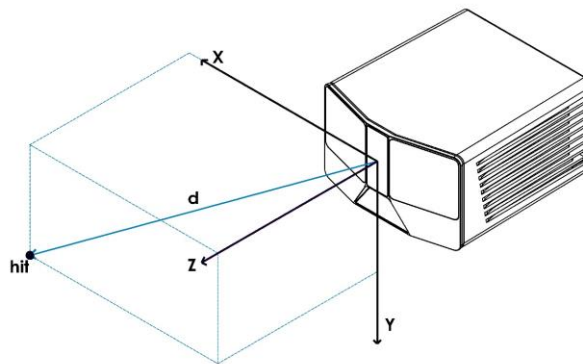

Figure 33. Point cloud reference coordinate system.
- X, Y, Z are the coordinates of the hit¹ in the coordinate system described in Figure 33;